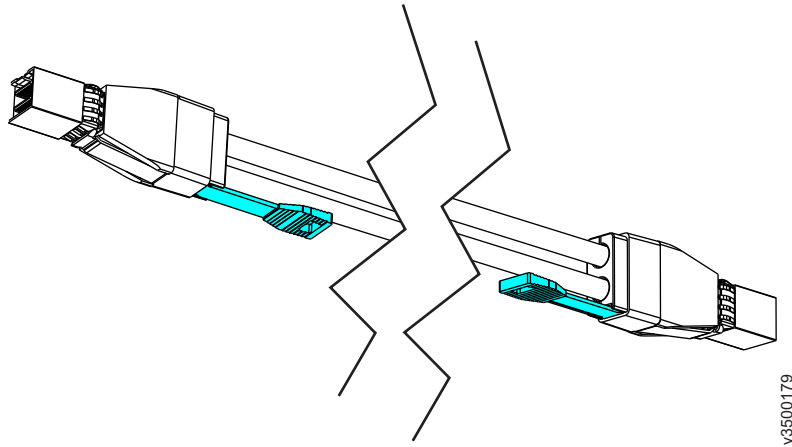

Figure 119. Mini SAS HD to Mini SAS HD cable
- Mini SAS HD to Mini SAS HD (Figure 119 on page 138)